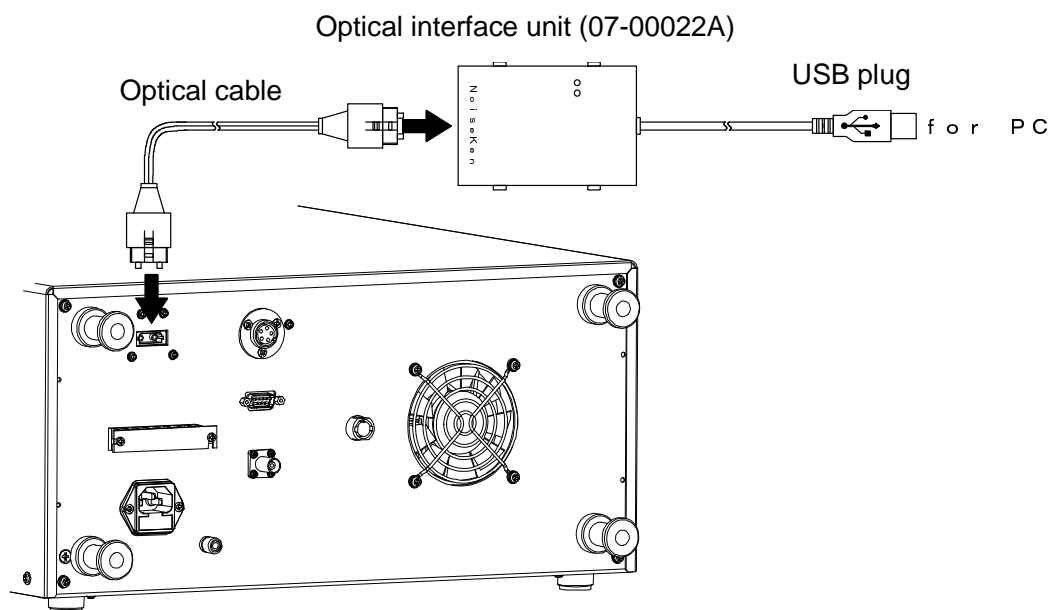

Figure 12 Hardware Setup
- Remove the protective cap on the “Communication Terminal ①” on the rear panel of the Unit.
- Remove the protective rubber caps on the optical cable plugs. Insert the plug of the optical cable that comes with the optional Optical Interface Unit 07-00022A, into the Communication Terminal ①, and insert the other plug into the Optical Interface Unit. See Figure 12.